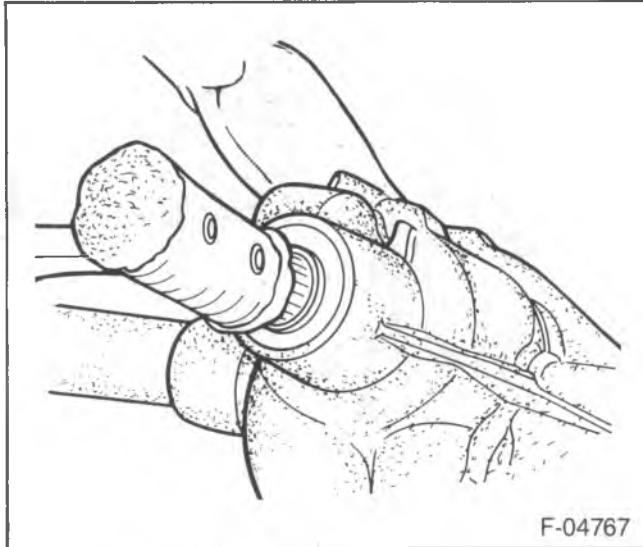
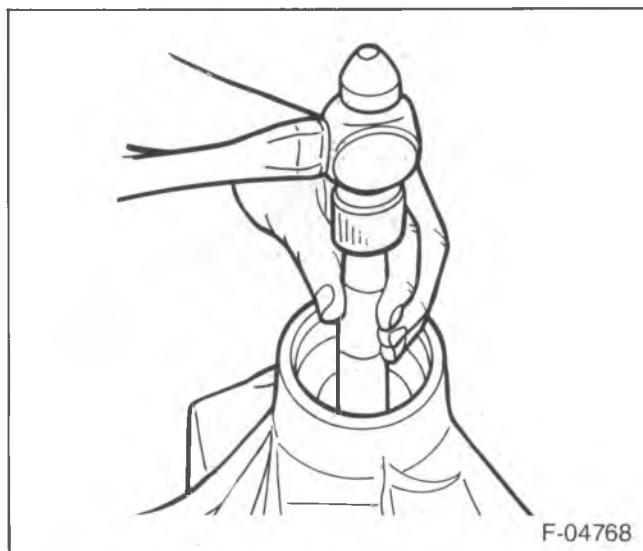
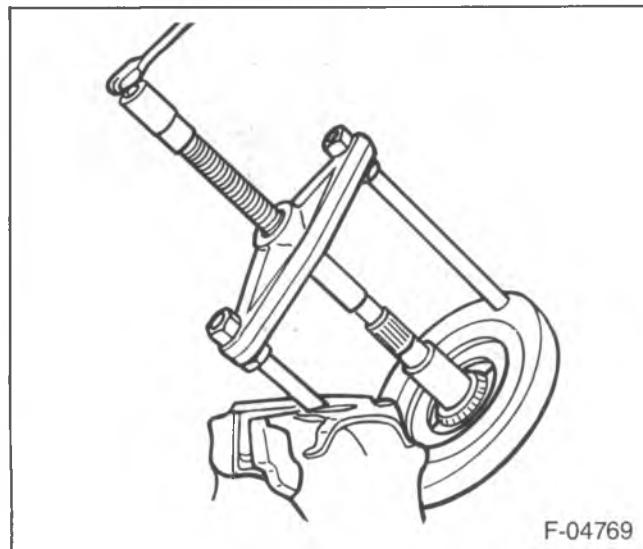

Figure 14—Removing the Pinion
Figure 15—Removing the Bearing Cups
Figure 16—Removing the Pinion Inner Bearing
23. Pinion (2) from the carrier using a rawhide hammer to tap the pinion (figure 14).
24. Carrier cover (14) and the pinion (2).
25. Pinion preload shims (6).
26. Pinion seal (9).
27. Pinion outer bearing (7) and oil slinger (8).
28. Bearing cups (3) and (7) from the axle housing using a hammer or a punch (figure 15).
29. Pinion adjusting shims (4) and baffle (5).
30. Pinion inner bearing (3) using J 29721 and J 29721-70 (figure 16).